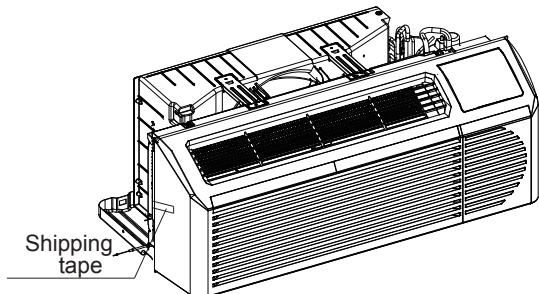

Fig. 9 - Shipping Tape Location
1. Carefully remove shipping tape from the front panel and vent door. See Fig. 9.